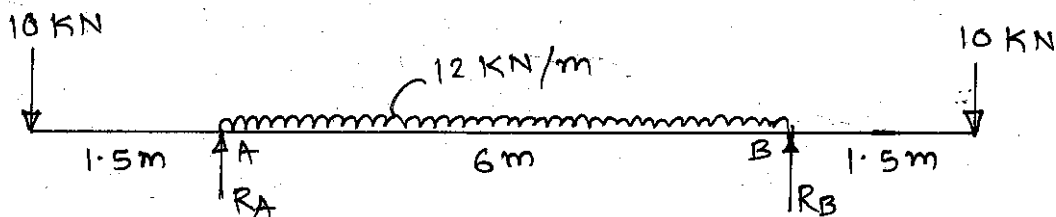

Figure No. 3 (Q. 6 (c))
- c) Draw SF and BM diagrams for the overhanging beam loaded as shown in Figure No. 3. Also locate points of contraflexure.